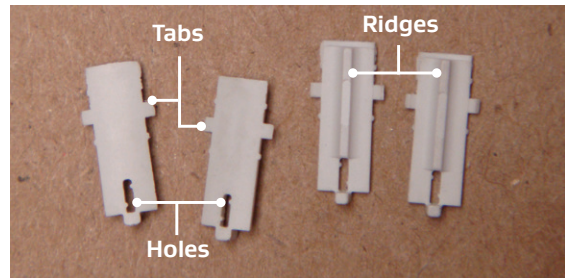
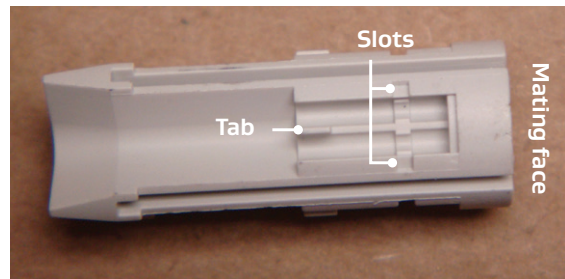
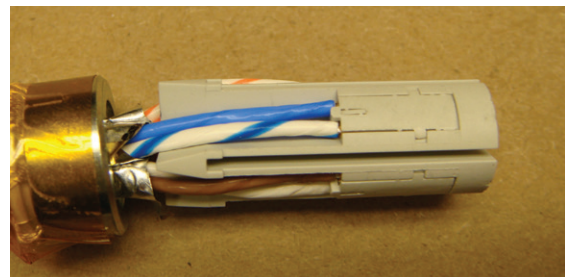

Figure 71: Retention sectors
Figure 72: Tabs and slots on connector insert
Figure 73: Ridge facing toward insert
20. Install the retention sectors over the contacts (Figure 71). Both tabs should fit into the slots near the mating face, and the hole will line up with the tab near the rear of the contacts (Figure 72). The side with the ridge will face toward the insert (Figure 73).